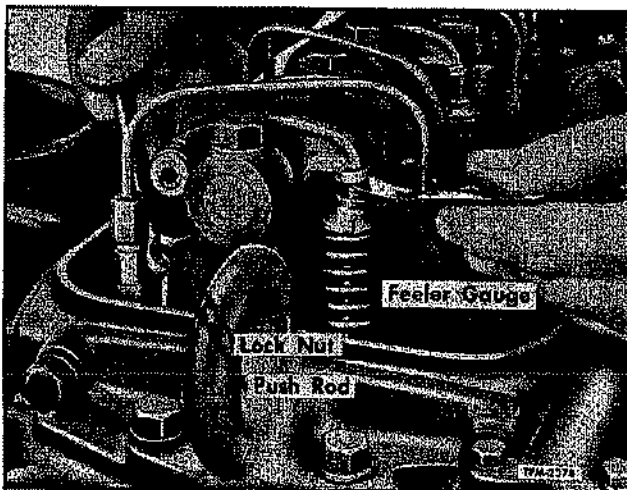

Figure 5—Valve Lash Adjustment (2-Valve Head)
1. Refer to figure 5 for reference to the following operation. To adjust valve clearance, use GO or NO GO feeler gauge set.